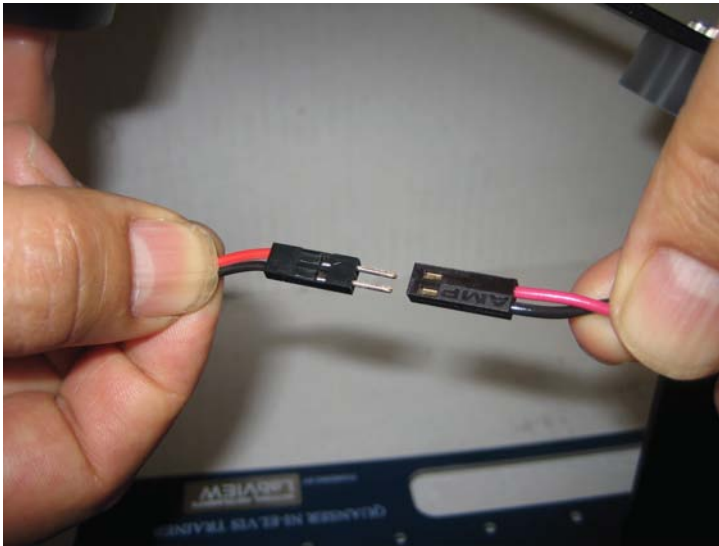

Figure 37: Connect motor cable.
6. As demonstrated in Figure 37, connect the motor cable from the VTOL actuator to the wires from the QNET PWM/Encoder board. Make sure the red and black cables match.